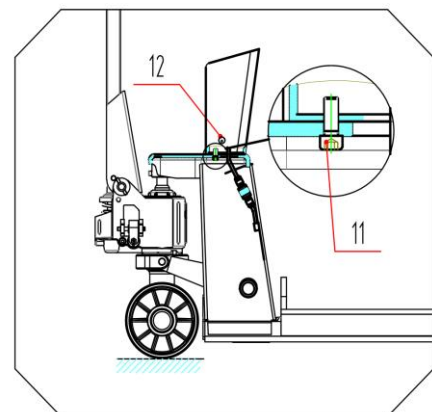

Fig. 6
- 2.2.1 See Fig.6, place the scale frame in the direction and align it with the fixing hole.
- 2.2.2 Fix the screw 11 to the instrument box assembly as shown in Fig. 6.
- 2.3.1 The charging interface is located on the right side of the instrument box (12 of Fig.6), which can be charged by connecting with the external charging line.